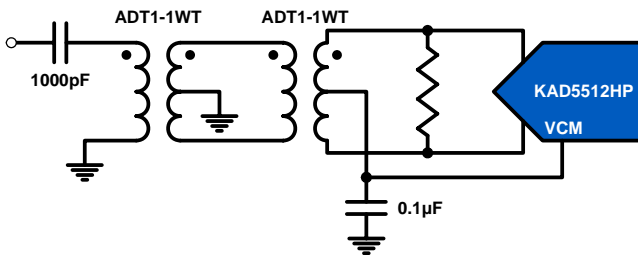

FIGURE 26. TRANSFORMER INPUT FOR GENERAL PURPOSE APPLICATIONS
Best performance is obtained when the analog inputs are driven differentially. The common-mode output voltage, VCM, should be used to properly bias the inputs as shown in Figures 26 through 28. An RF transformer will give the best noise and distortion performance for wideband and/or high intermediate frequency (IF) inputs. Two different transformer input schemes are shown in Figures 26 and 27.